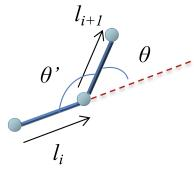

Figure 1.5: A joint in a polymer chain.
- Note that Lodge and Hiemenz (2020) uses  $\theta$  for the *complement* of bond angle, as in Figure 1.5. Other texts may use a different convention.
- From Figure 1.5, trigonometry tells us that